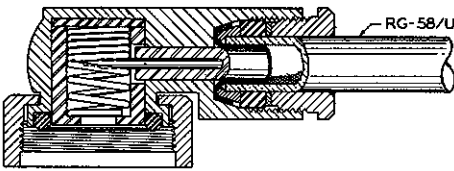
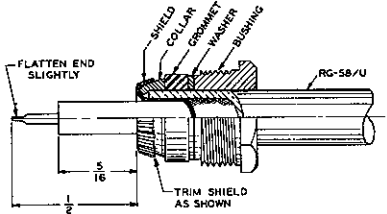

Fig. 4-3
Fig. 4-4
Fig. 4-3 shows construction of the dc plugs P-602. Fig. 4-4 shows proper service of RG-58/U cable for these plugs. To remove cable from this plug unscrew the bushing and pull cable out. The center conductor of the cable makes tight contact between turns of the coil spring when assembled.
- (1) Slip the bushing, washer, and grommet over end of cable
- (2) Remove outer insulation $\frac{9}{16}$ inch from end.
- (3) Slip collar over shielding (unbraided).
- (4) Fold back braids and trim as illustrated, Fig. 4-4.
- (5) Remove inside insulation to dimension shown.
- (6) Flatten end of center conductor to sharp chisel edge, push into dc plug P-602, aligning edge with turns of coil spring.
- (7) Push in grommet and washer and screw bushing down snugly.